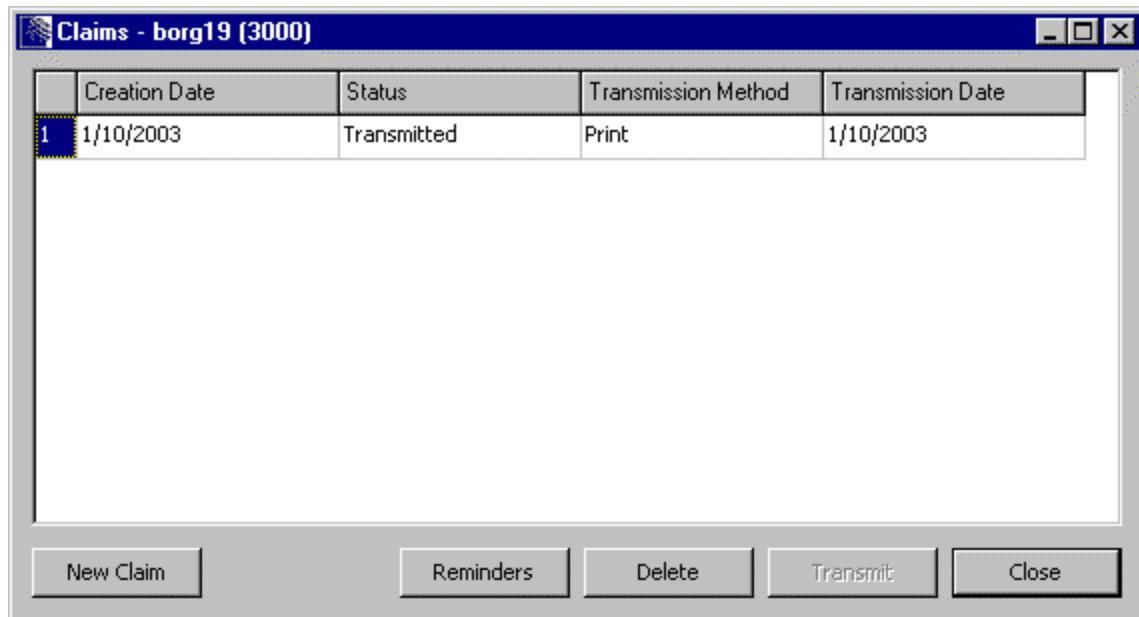

Figure 10-10. Claims Window After Transmission
- If you answer Yes, the Claims window reappears (*Figure 10-10*), displaying the transmission date and the new claims status—*Transmitted*.